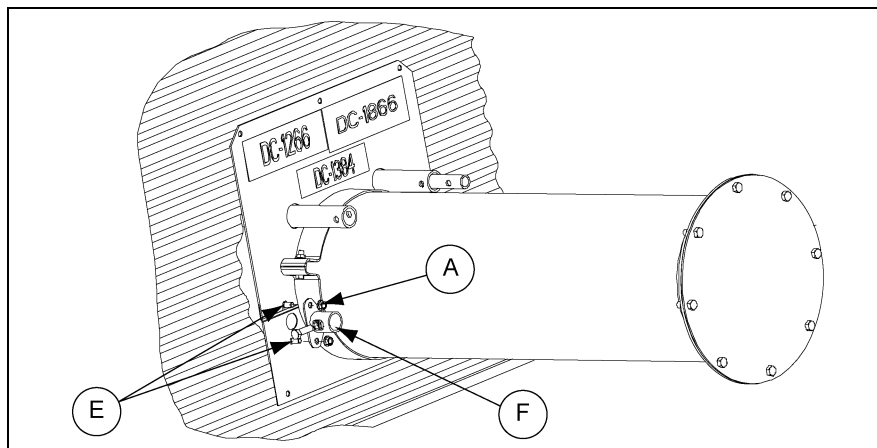

Figure 4Q
2. Install the clutch control pipe position lock (F) to the lower bin flange using two (2) 5/16" x 3/4" carriage bolts (E) and serrated flange nuts (A). Install the carriage bolt heads on the backside of the lower bin flange so they will be next to the bin wall when the bin flanges are attached to the bin.
3. With the bin flanges not yet attached to the bin wall, make sure that the bin wall opening is large enough for the clutch and well control rods to pass through the bin wall. *(See Figure 4Q.)*